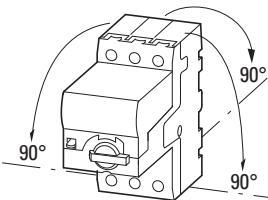

Figure 19: Approved mounting position for PKE motor-protective circuit-breakers
- Mount the motor-protective circuit-breaker only as shown in Figure 19.